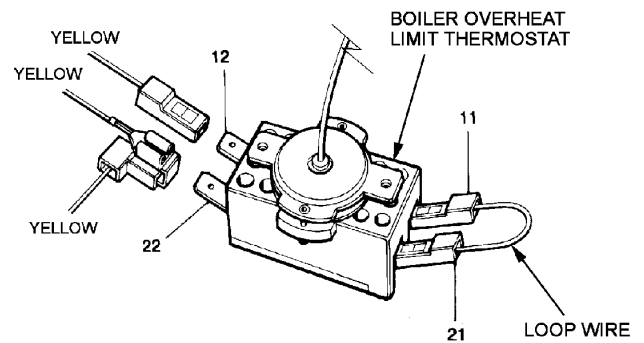

Fig. 33
3. Remove LH side plate, slacken screw where the phial passes through RH side and rotate. Slacken screw front phial mounting bracket rotate. (See Fig. 33).
SEE FIG. 33
4. Re-connect push on connector wires, as Fig. 33.